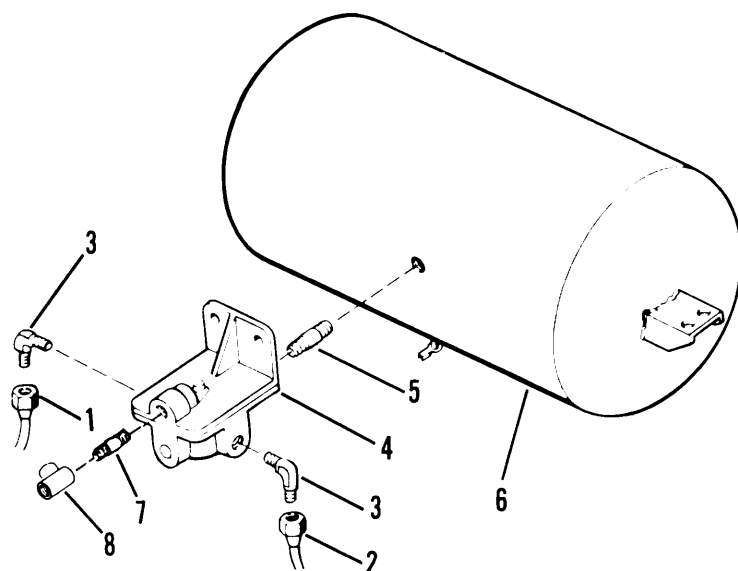

Figure 4-31. Emergency Relay Valve (B1871)
- (1) Disconnect input (1, fig. 4-31) and output (2) lines from elbows (3) and tee (8).
- (2) Remove two elbows (3), adapter (7) and tee (8).
- (3) Remove relay valve assembly (4) by rotating entire valve assembly counterclockwise.
- (1) Install nipple (5, fig. 4-31) to rear of valve assembly (4).
- (2) Install valve assembly (4) to reservoir (6) by rotating entire valve assembly clockwise.
- (3) Install two elbows (3), adapter (7) and tee (8).
- (4) Connect input (1) and output (2) lines to elbows (3) and tee (8).
- (5) Repeat steps 1 through 4 for other valve, if removed.
- (6) Close drain cocks.
- (7) Check for leaks (para. 4-30).